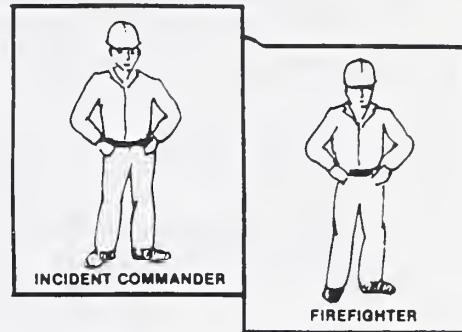

Figure 1.
54.2 - Small-Crew Fire. Normally a small-crew fire has about six firefighters (figure 1).